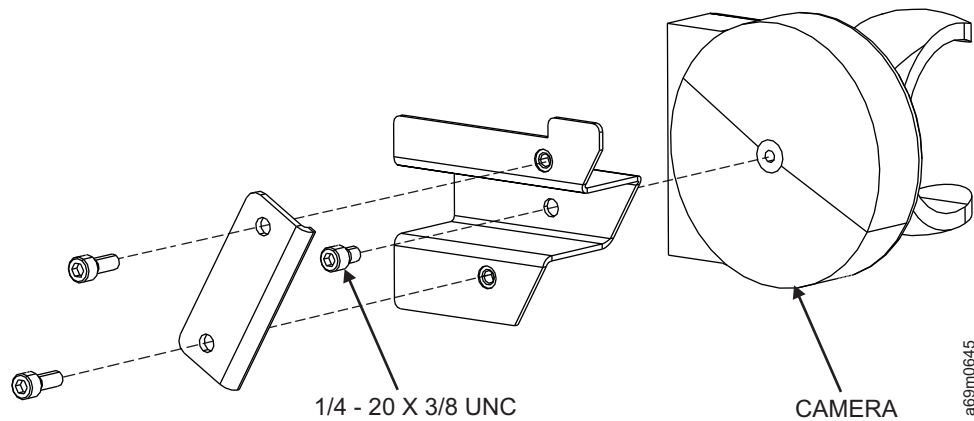

Figure 27. Camera mounting example
3. Attach the web camera to the mounting hardware as shown in Figure 27 on page 111.